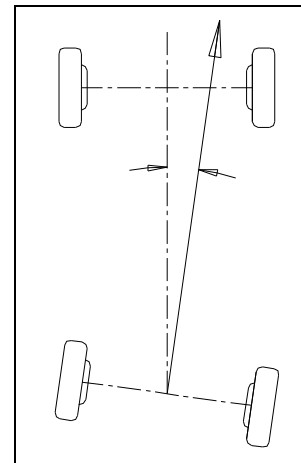

Fig.1.5
- ▮ Rear wheel driven: the thrust angle equals half of the toe-in difference between the two rear wheels. As shown in Fig.1.5.